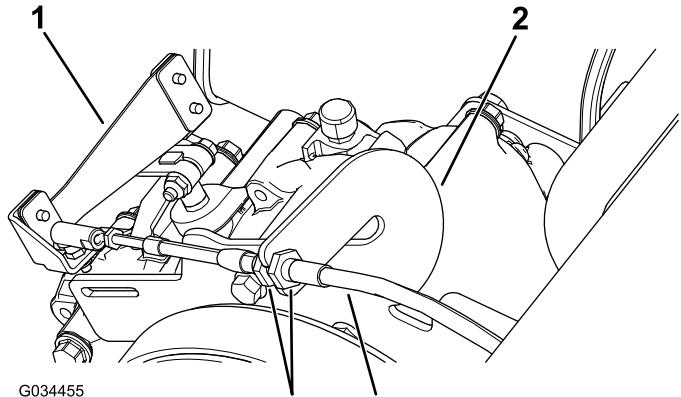

Figure 60
1. Loosen the jam nuts on the gear-shift cable and adjust them as necessary (Figure 60).
2. Test the gear-shift position by rotating the gear-shift selector to the 3 different positions and check to see if the shift lever (Figure 60) shifts properly when shifting the gears; refer to Gear-Shift Lever and Gear-Shift Indicator \(page 13\).